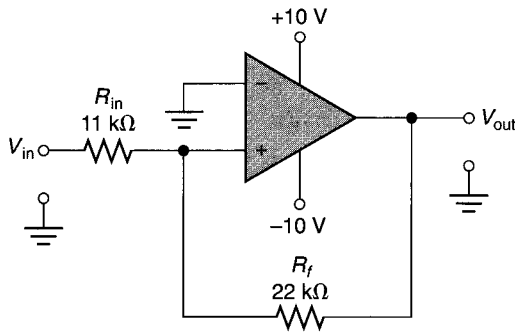

FIGURE 19.55
21. Determine the UTP and LTP values for the Schmitt trigger in Figure 19.55.